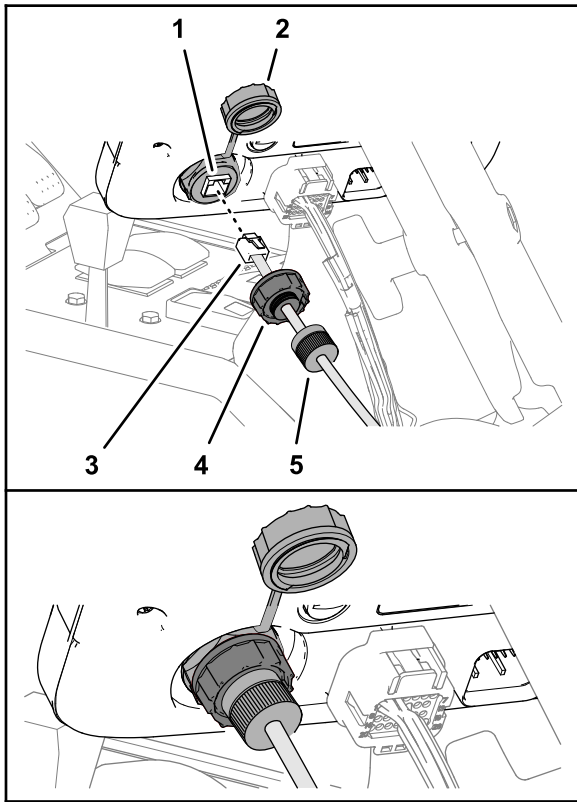

**Figure 157**
1. Align the modem data harness with the RS-232 connector labeled X-CONSOLE toward the sprayer monitor (Figure 157).